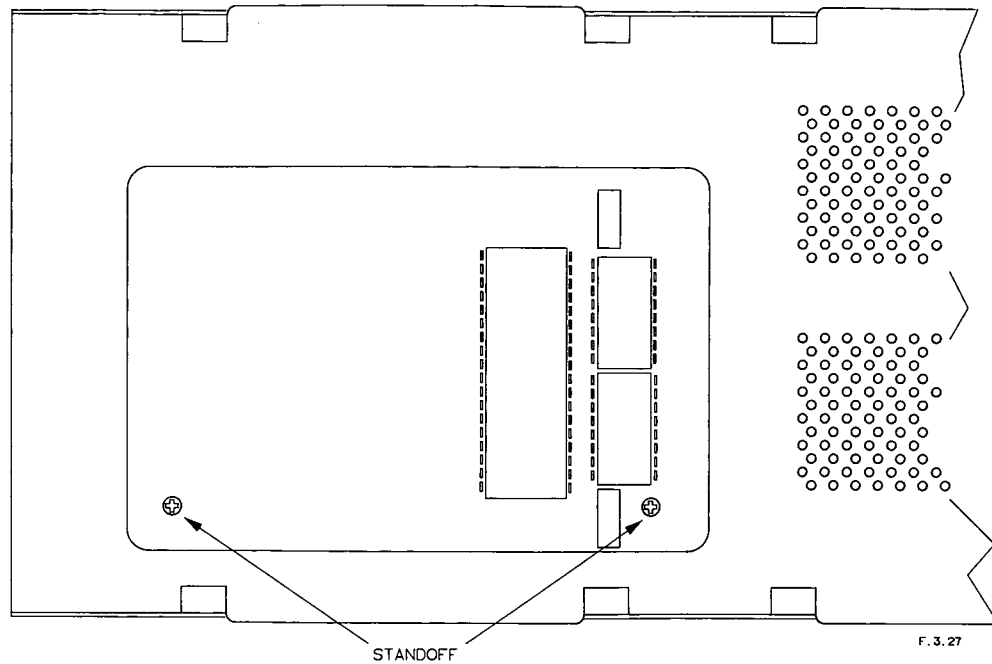

Figure 3-27. Controller Module "Stand-off" Location
3. Lay the module on its side with the sheet metal opening face up. Locate the two stand-offs and remove the screws (Figure 3-27).